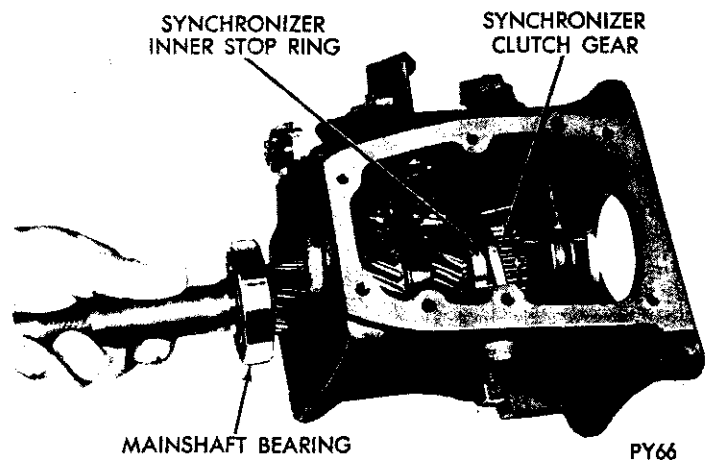

Fig. 22—Removing Mainshaft from Case and Gear
- case while steadying gears as they drop free (Fig. 22).